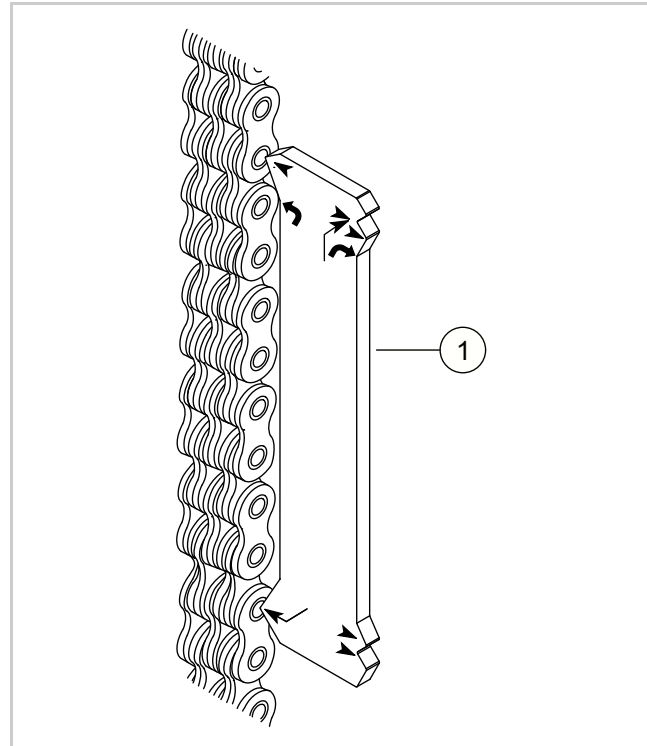

Fig. 2 (33491)
3. See Figure 2. Measure the lift chain with a chain wear scale (1).